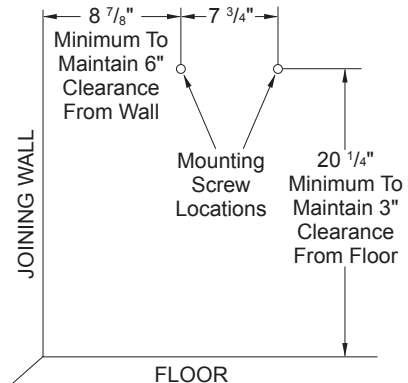

Figure 3 - Mounting Screw Locations
WARNING: Maintain minimum clearances shown in Figure 3. If you can, provide greater clearances from floor and joining wall.
2. Mark two mounting screw locations on wall (see Figure 3).